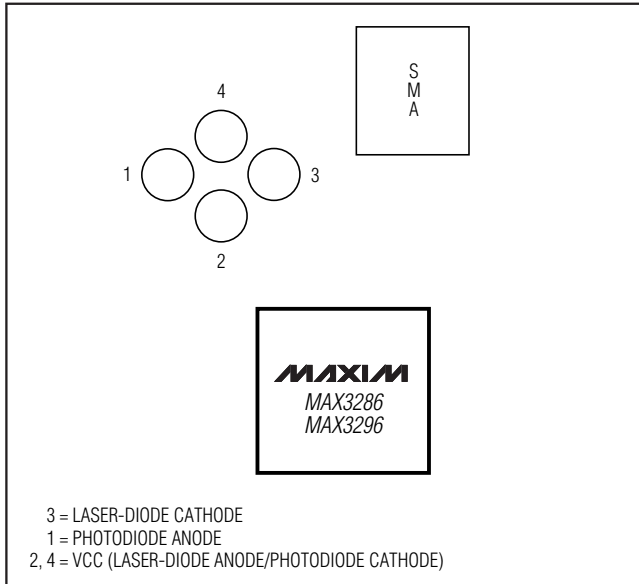

Figure 1. Optical Connection Diagram
- 2) Make sure nothing is installed in the laser socket (Figure 1).
- 9) Place jumpers across JU7 (EN), JU8 ( $\overline{\text{EN}}$ ), and JU9 (PORDLY).
- 10) If you intend to power the board from a +5V supply, place a jumper across JU6 (LV). **Do not apply power yet.**
- 4) Connect a laser to the board (Figure 1).